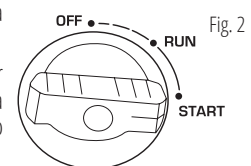

Fig. 2
4. Set the multifunctional switch to a position in between "START" and "RUN" (fig. 2). Atenção! A posição do interruptor do motor depende da temperatura ambiente e da composição da mistura de gás.
8. To start KS 2100iG S, KS 3100iG S models, turn the Multifunctional engine switch to the "START" position (fig. 2). Pull the handle of manual starter until a slight resistance is felt, then pull it relatively sharply. Slowly return the handle manual starter by hand, do not release it abruptly. Turn the Multifunctional engine switch to the "RUN" position (fig. 2).
3. Coloque o interruptor multifuncional do motor na posição "START" (fig. 2).